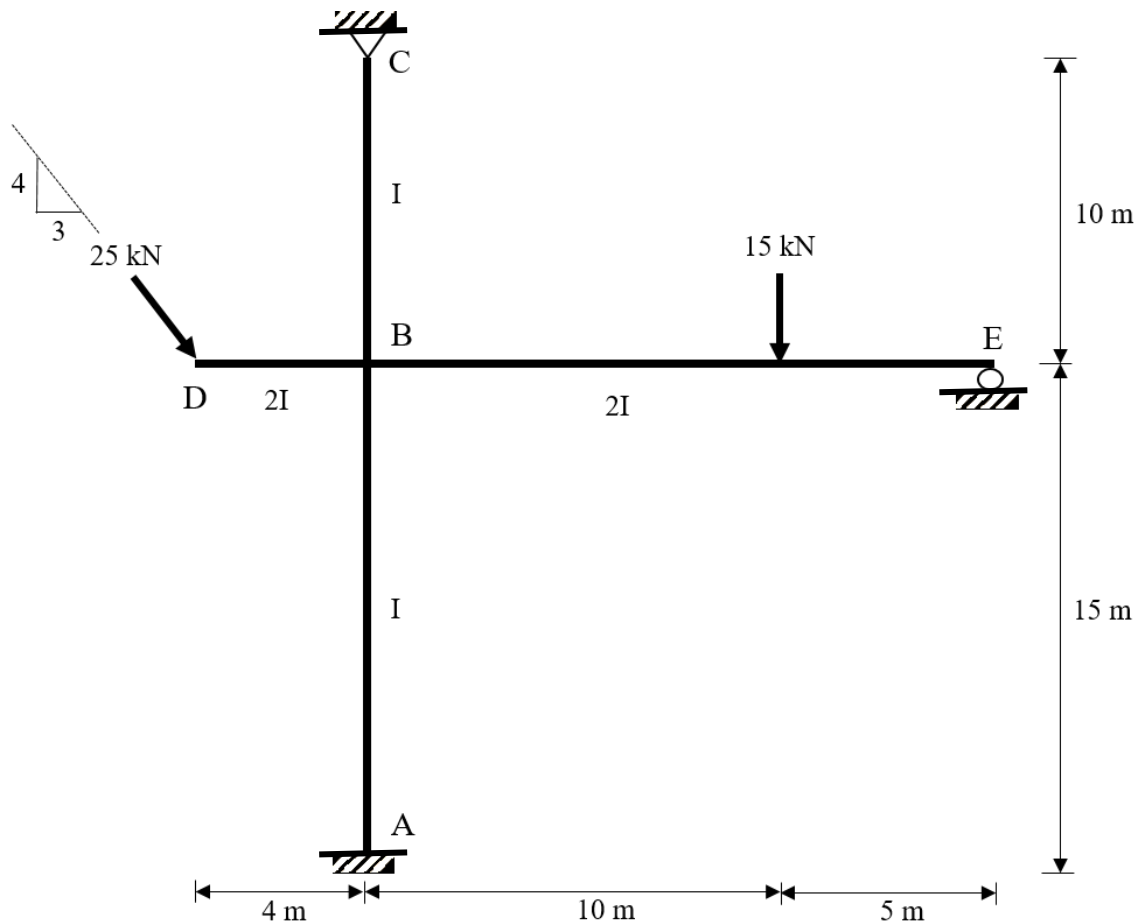

Figure 3 / Rajah 3
3. **Figure 3** shows a frame carrying a point load of 15 kN on member BE and 25 kN which is acting at certain angle at the end of overhang portion BD. Supports A, C and E are fixed, pinned and roller, respectively. The flexural rigidity of member DBE and ABC are $2I$ and I , respectively. E is constant for the frame.